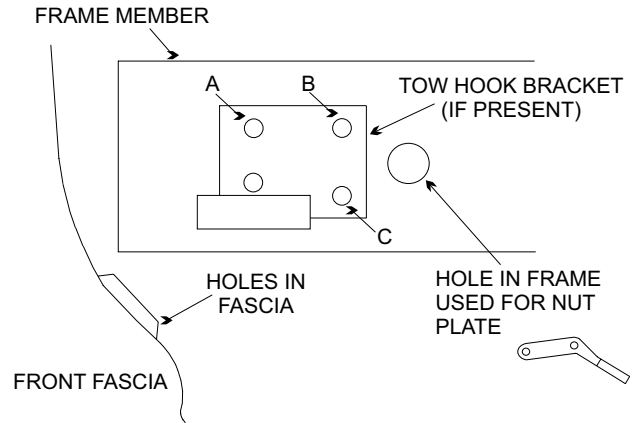

FIGURE 3
- STEP 7. Mount Safari Bar using 1/2" Fasteners as shown in Figure 3 and 4.